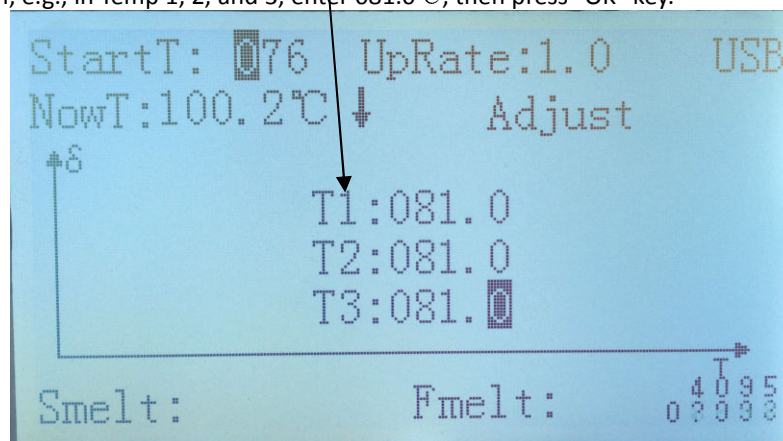

Figure 10
- 3) The first point third order calibration (See Figure 10):